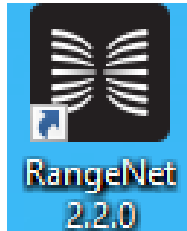

Fig. 3: RangeNet GUI Icon installed on Desktop
- On completion, close the application. During this installation process, the icon shown in **Figure 3** will be installed on the Desktop.